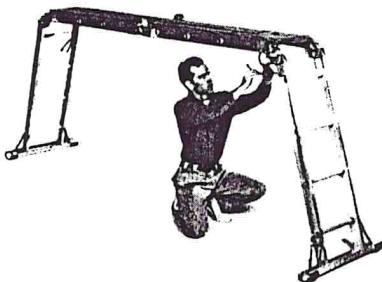

FIGURE 4.
- 5) Position a 2x12 construction-grade plank across rungs and tie ends of plank to scaffold as shown in figure 4.